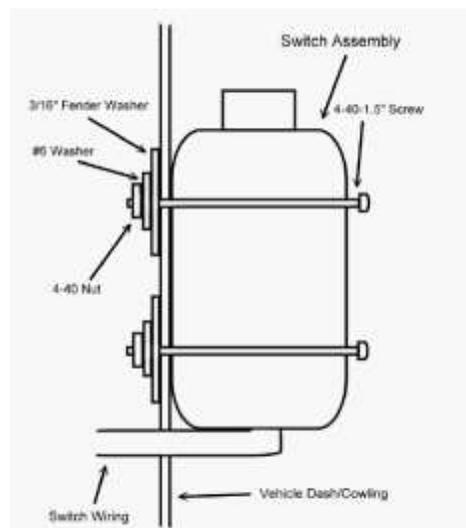

Figure 1 Assemble Plate To Frame
1. Place mount into location as shown in "Figure 1" and assemble mount to frame with supplied 3/8" Hardware as shown. (Note: you may need to use the supplied flat head bolt in substitute of the standard bolt due to clearance issues on certain winches)